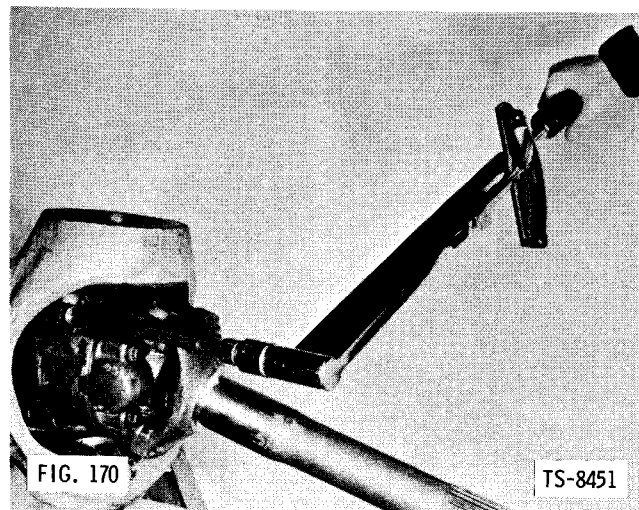

FIG. 170
11. Bolt U-joint to axle shaft. Tighten to specified torque (Fig. 170).